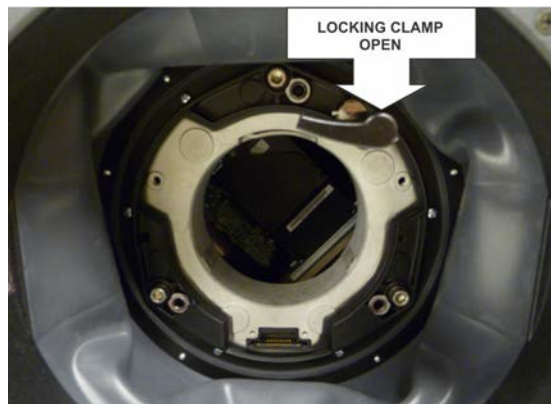

FIGURE 2-1
1. Rotate the lens clamp to the open position, see Figure 2-1.